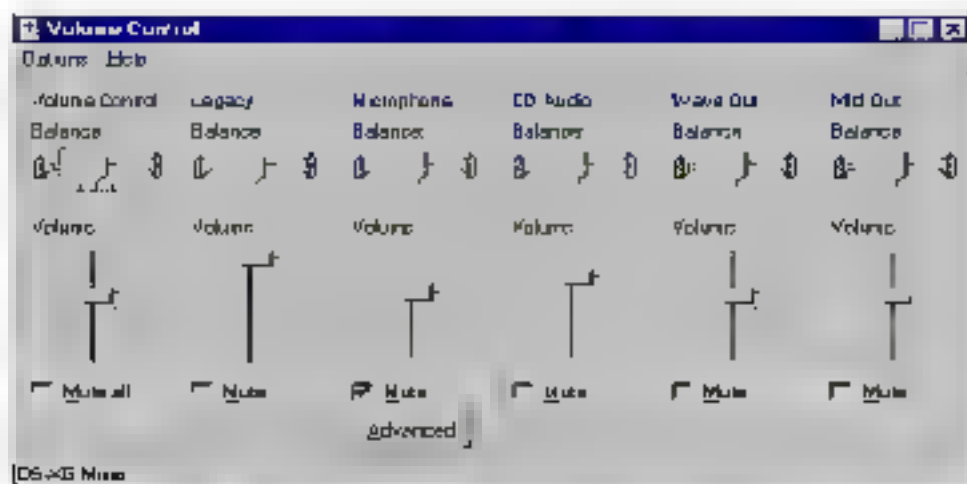

Figure 3-2 The Volume Control window
- 4) To access Advanced control of the Microphone device, first click on Mute and then click the Advanced button as shown in Figure 3-2 below.